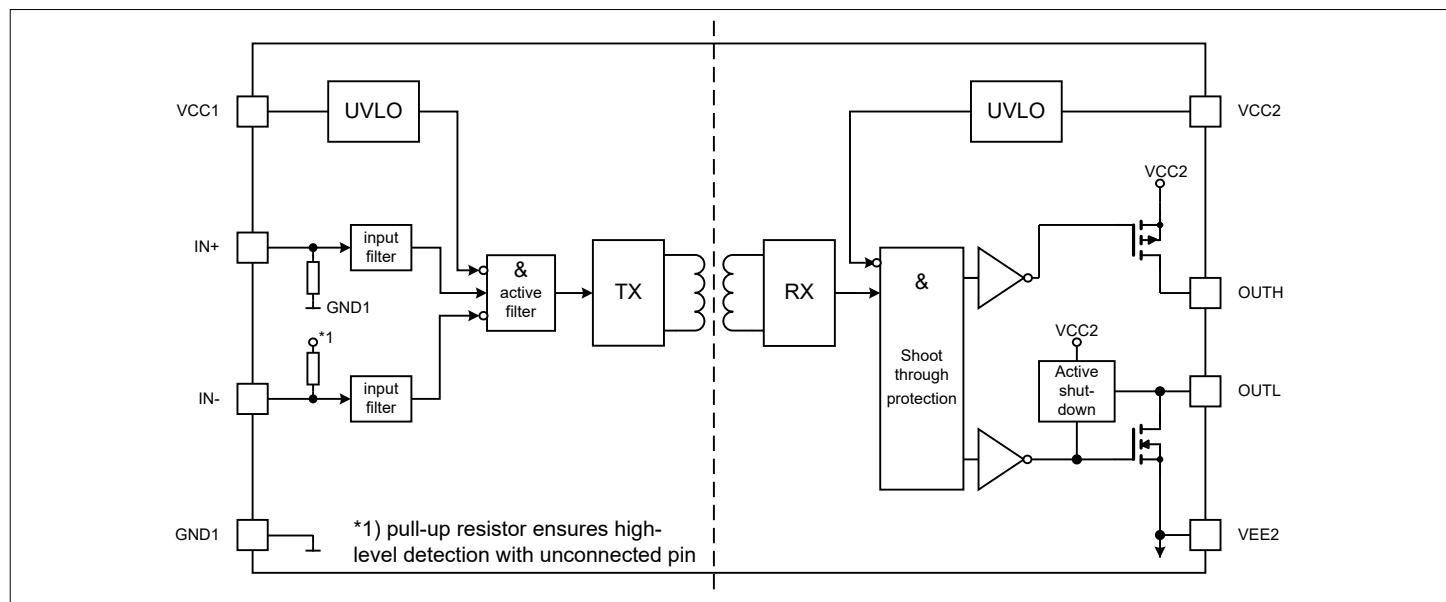

Figure 2
- **IN+:** Non-inverted control signal for driver output. An internal filter provides robustness against noise at **IN+**. If left open, an internal weak pull-down resistor pulls this pin to a low state, as shown in Figure 2.
- **IN-:** Inverted control signal for driver output. An internal filter provides robustness against noise at **IN-**. If left open, an internal weak pull-up resistor pulls this pin to a high state, as shown in Figure 2.